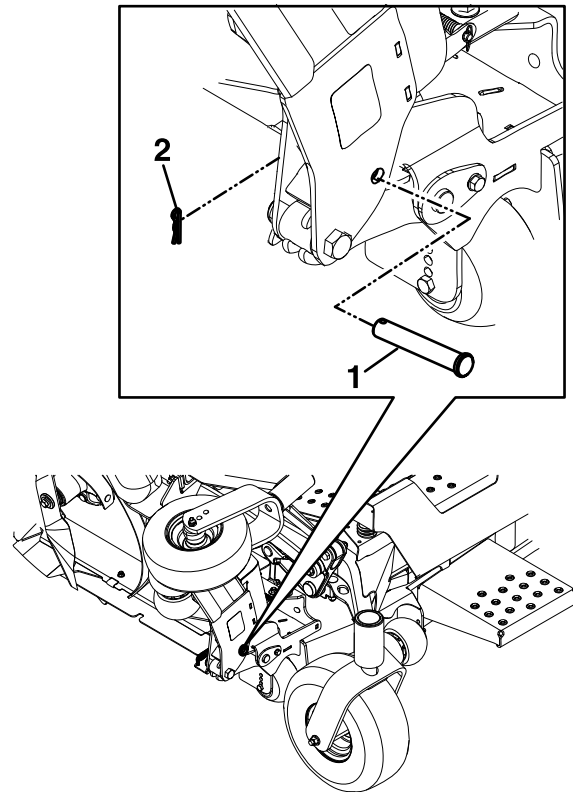

Figure 20
3. Remove the clevis pin and hairpin from the storage location and secure each wing in the up position as shown in Figure 20.